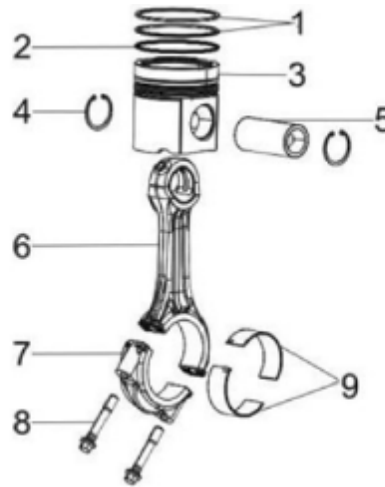

Figure 103.
2. Carefully clean the ring grooves of the piston (Figure 103, Item 3). Fit the piston rings (Figure 103, Items 1 & 2) with the special tool.
4. Check all the connecting rods (Figure 103, Item 6) and make sure that the connecting rods are in the same weight group.